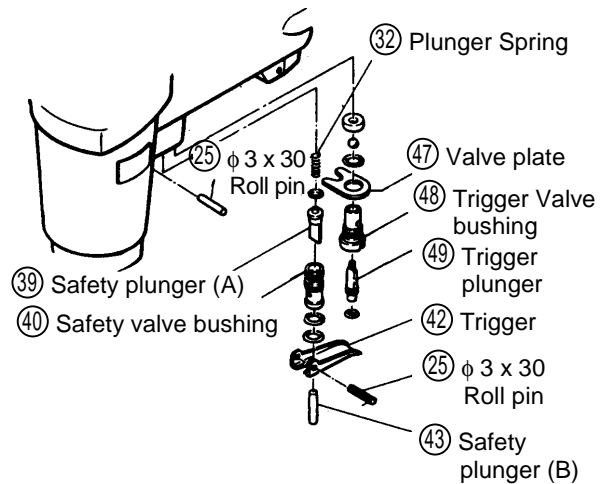

Fig. 15 Disassembly of Valve
(1) Disassembly:
- Remove the Magazine ⑧① section and Tail Cover ③⑥ section as described in section 1-1 above.
- Take out the two ϕ 3 x 30 Roll Pins ②⑤.
- Remove the Trigger ④②, Trigger Plunger ④⑨, and Safety Plunger (B) ④③. (see Fig. 15)
- Insert the minus-hd. screwdriver into the groove of the Trigger Valve Bushing ④⑧, and loosen it by turning it counterclockwise, being careful not to damage the groove. (see Fig. 15)
- After the Trigger Valve Bushing ④⑧ has been loosened, the Safety Valve Bushing ④⑩ and Trigger Valve Bushing ④⑧
(see Fig. 15)